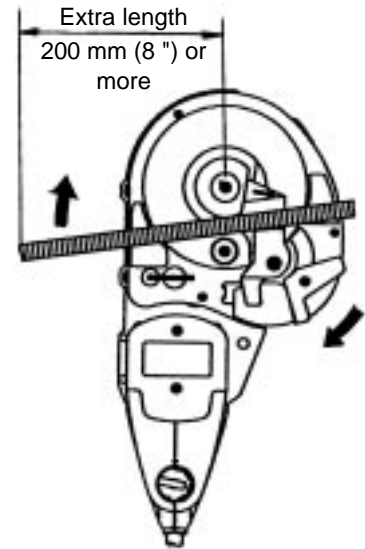

Fig. 7
### (3) Reserve an extra length of at least 200 mm (8") on the bending length of the rebar to be bent (Fig. 7).